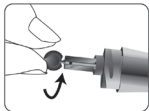

Figure 24
STEP 3: Hold the Lancet Needle Cover and gently twist it off the Lancet. See Figure 24.